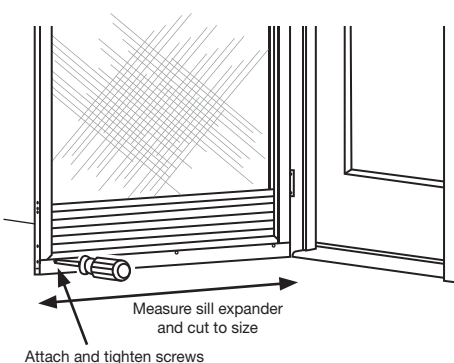

Fig. 9
Temporarily tape sill channel expander in place with masking tape. Mark and pre-drill (3) sill channel expander attachment holes as indicated on interior side using 1/8" drill bit. Secure with #8 x 3/8" screws provided (**Fig. 9**).
Con el expansor del canal del batiente ya instalado, debe haber un espacio de aproximadamente 64 mm desde la parte inferior de la puerta con pantalla al piso (**Fig. 9**).